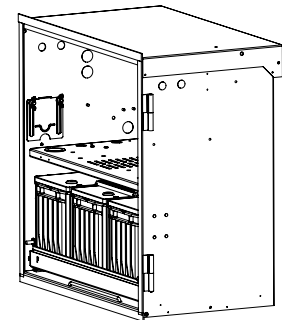

Fig. 5, Closed Drawer
8. Close the drawer and secure the door of the enclosure (See Fig. 5).